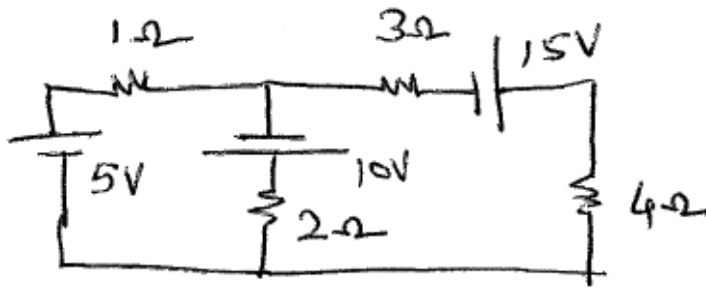

Fig 7b.
- b) Verify Tallegen's theorem shown in fig. 7b. 6